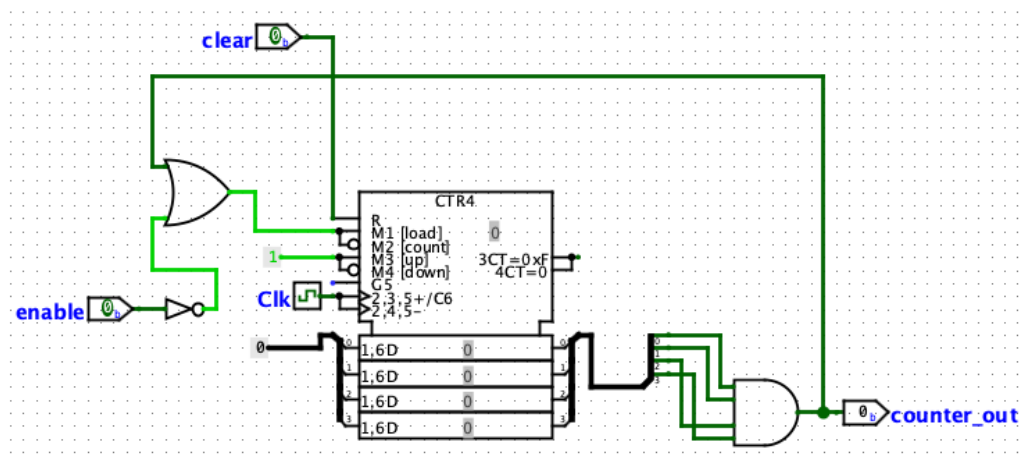

Figure 5.2: Counter in Logisim
Figure 5.2 shows an example of a counter in Logisim that counts in hexadecimal from 0 to F . You can find this counter in *Memory > Counter*.
1. The AND gate on the right side of Figure 5.2 performs two tasks: it turns on the output *Enable* signal once the counter reaches a certain value and it performs a parallel load of a new counter value (specified by you) on the next clock cycle. This is one way to make the *RateDivider* counts a certain number of clock cycles before turning on the enable signal (but not the only one). Using this idea, changing the frequency of the new clock signal would just involve changing the value you load into the counter.
- This counter design in Figure 5.2 is provided for you and you can use it as a model to build your RateDivider counter (your DisplayCounter will be more straightforward).